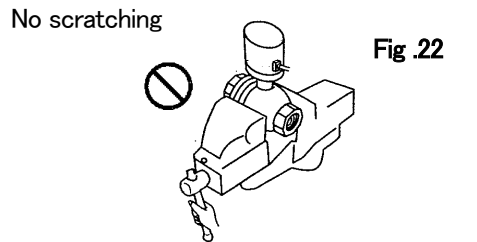

Fig. 22
- **Do not** hold a valve with a vice to eliminate a concern of deformation or damage of the valve, which may cause valve malfunction or external fluid leakage (Fig.22).